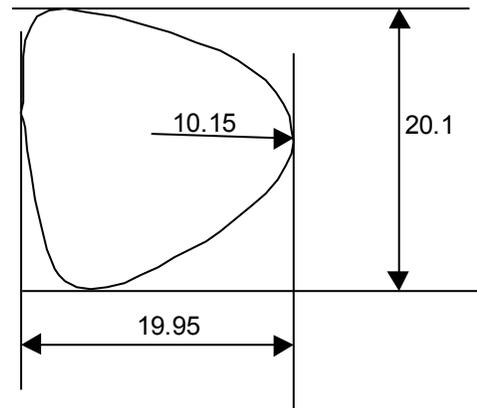

Figure 2
19. What is the principle of independency in drawings? If the diameter of a shaft is specified as $20 \pm 0.1\text{mm}$ and the cross-section of a shaft as shown in Figure 2 above right, is it acceptable? Why or why not?